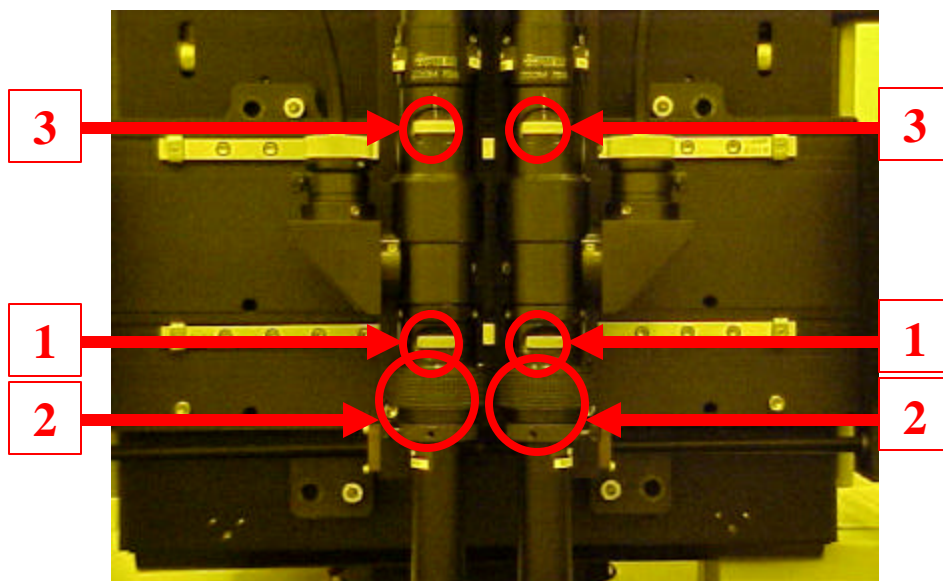

Figure 24. Microscope
17. Turn the "coarse focus" ((1) in Fig. 24) and the "fine focus" ((2) in Fig. 24) as necessary. Zoom in and out as necessary ((3) in Fig. 24). The monitor will show you features on the mask and on the wafer. **{NEVER ATTEMPT TO CHANGE THE EYEPIECES. IN MOST CASES, YOU WILL NEVER NEED TO CHANGE THEM. IF NEEDED, PLEASE CONTACT THE CLEAN ROOM MANAGER.}**